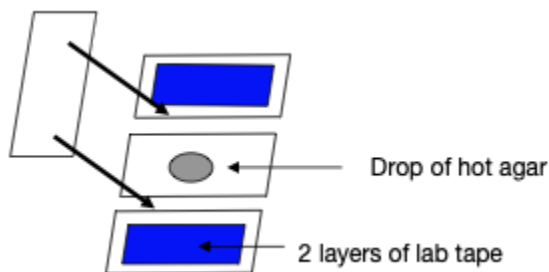

Figure 1. How to make an agar pad.
3. Rapidly cover the hot agar with another slide and press down gently (Figure 1).